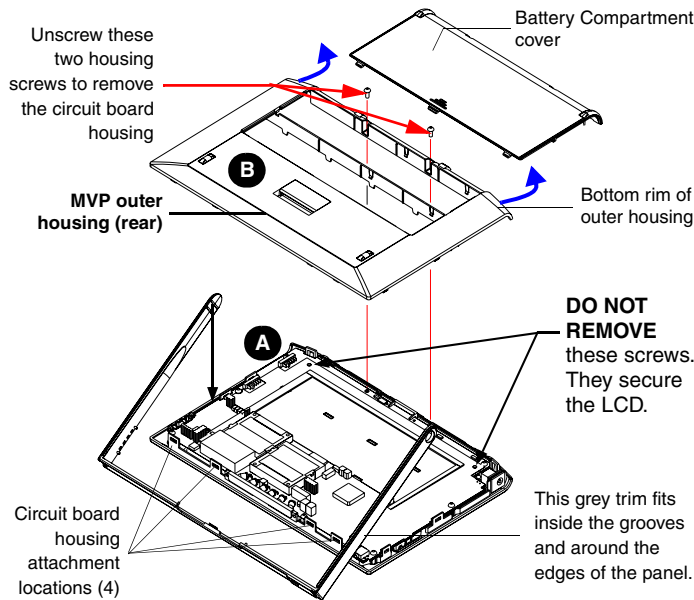
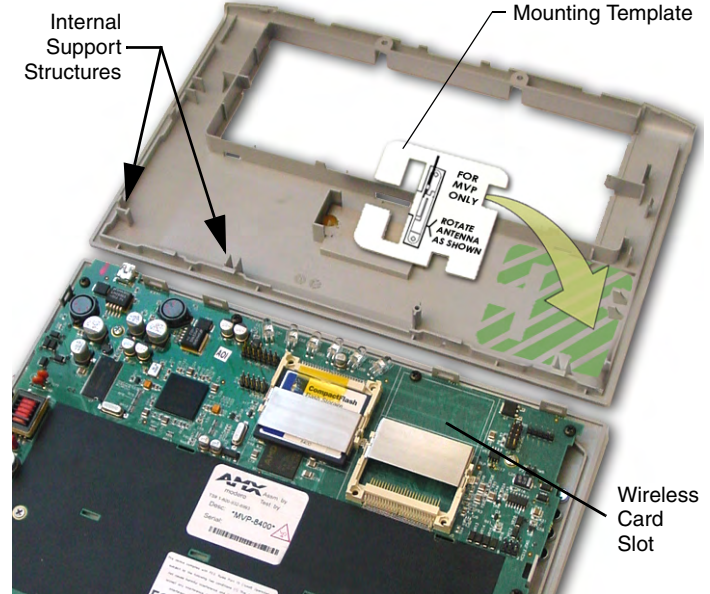

FIG. 2 Removing the MVP enclosure (housing)
FIG. 3 Installing the Mounting Template in the correct location
- Slide the Battery Compartment cover (FIG. 2) away from the metal plate to expose the internal battery compartment (2 battery slots).
- Use a grounded Phillips-head screwdriver to remove the two housing screws shown in FIG. 2. Once done, place these screws aside.
- Grasp the bottom rim of the outer housing (just above the MVP interface connector - Blue arrows in FIG. 2) and **in a single motion**, carefully pull the bottom rim up and then out (away from the IR Emitter) to expose the internal circuit board (A in FIG. 2). *It might be necessary to repeat this process along the bottom and sides of the housing as well.*
- Remove the dark grey trim from the top rim of the board (FIG. 2).
- Discharge any static electricity from your body by touching a grounded metal object and then locate the wireless card slot on the main board (FIG. 3).
- Place the circuit board (A in FIG. 2) on a flat level surface so that the IR Emitters are pointing away from you.
- Flip over the MVP's rear housing (B in FIG. 2) so that the internal support structures are visible and then lay it directly in front of the circuit board such that the battery compartment is furthest away from you. This placement provides contact of both top rims (FIG. 3).
- Place the included Mounting Template cutout along the bottom right corner of the rear housing (FIG. 3). Use the housing's inner support structures to fix the template into place.
6. Use a grounded Phillips-head screwdriver to insert and re-secure the two housing screws removed in Step 1 (FIG. 2).